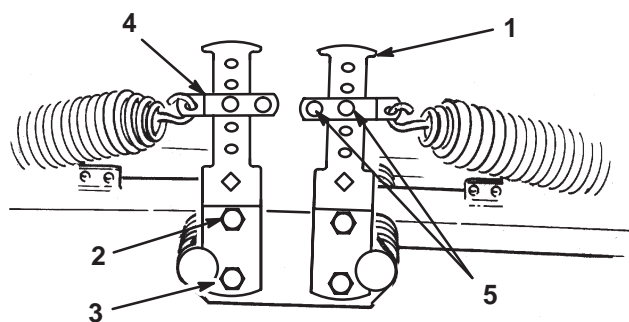

Figure 13
2. Secure the other end of the spring to the appropriate hole (see below) on the front and rear counterbalance arms (Fig. 13 & 14) with the spring shackle, clevis pin, and cotter pin.
4. Secure the bottom of the counterbalance arm to the frame with the capscrew and nut previously removed. Tighten the top capscrew (Fig. 13).